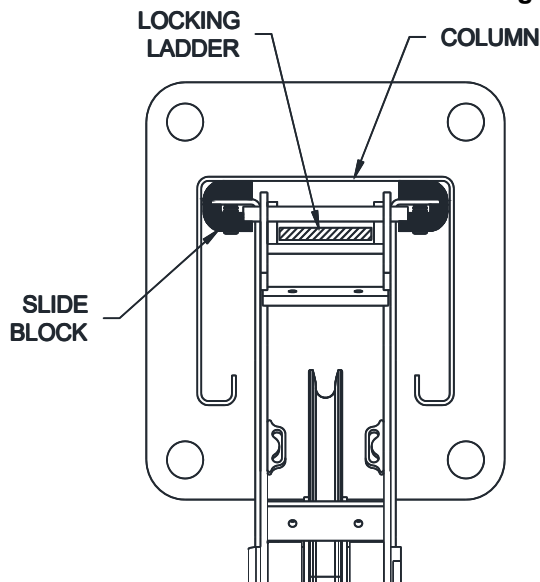

Fig 16 – Locking Ladder Orientation
- 21) Raise the locking ladder, push the column against the slide blocks, and lower the ladder into crossbeam slot, **Fig 16**. Remove the Wood 2" x 4"s and push the column so the slide blocks are in the rear of the column as shown in **Fig 16**.